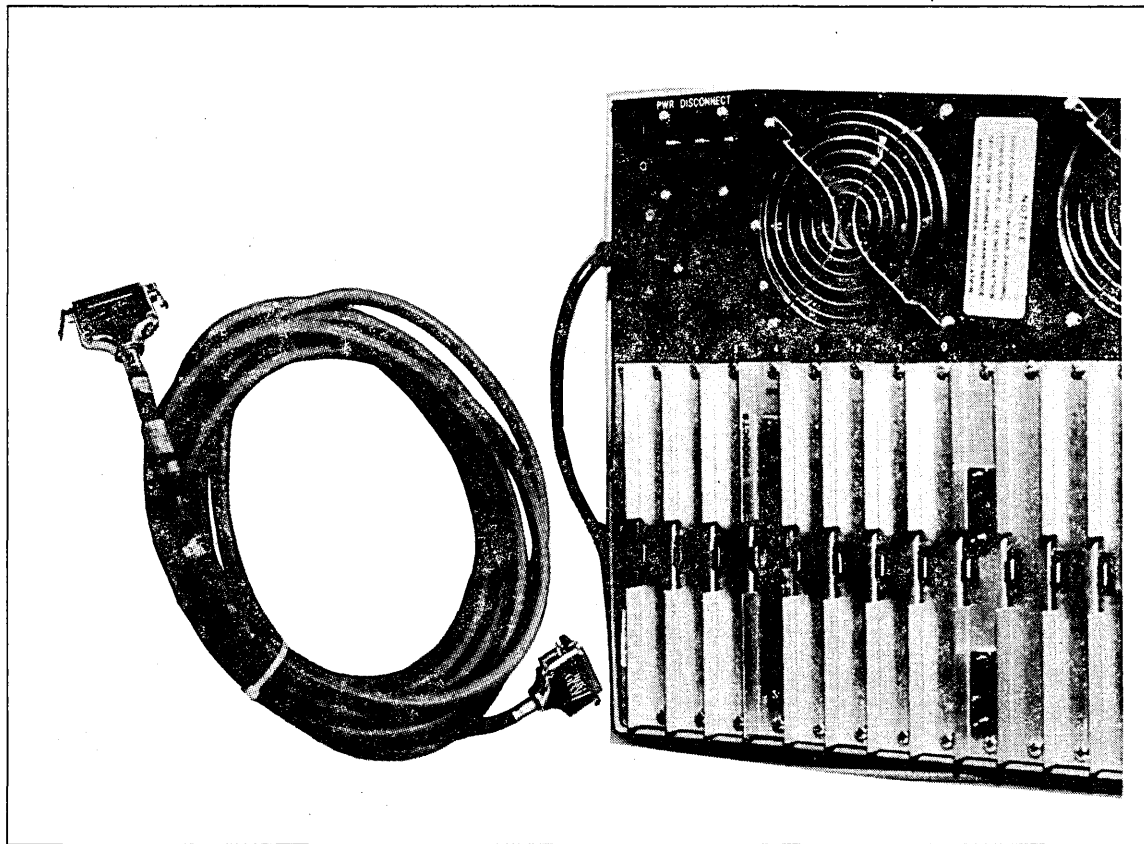

Figure 2-6. Installing URI Cables
1. Connect the cable(s) to the DI. The URI cables are shown in figure 2-6. Tighten the locking screws with a straight slot screwdriver.